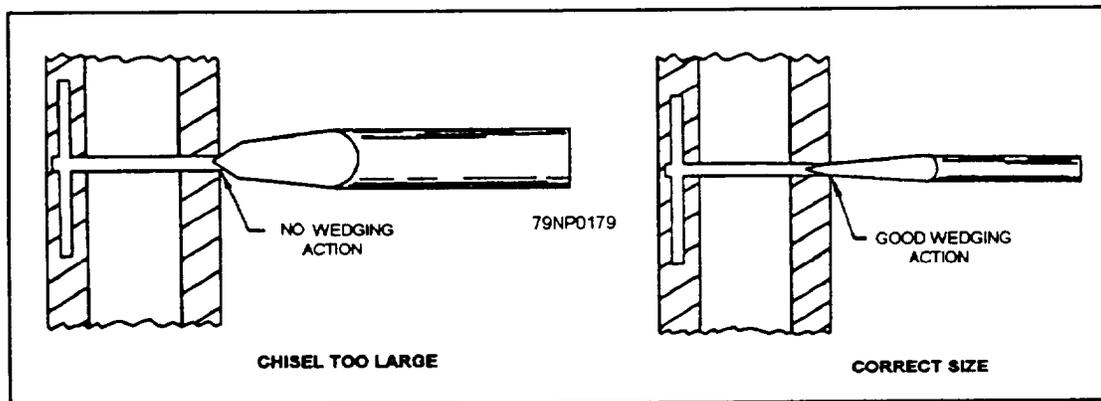

Figure 7-8.—Cracking seized inner ring of bearing.
7. Using the correct size chisel, as shown in figure 7-8, crack the bearing inner ring and remove it.